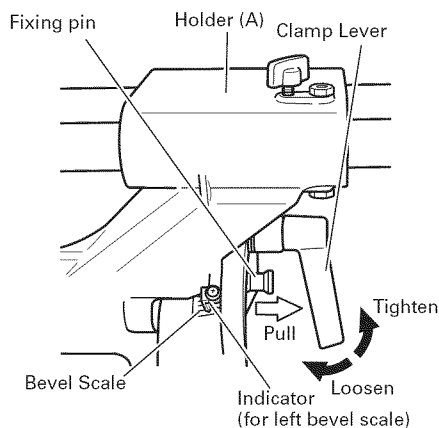

Fig. 31
- (1) Loosen the clamp lever and bevel the saw blade to the left or to the right. When tilting the motor head to the right pull the fixing pin towards the rear. The clamp lever adopts a latching system. When contacting the work bench and the main body, pull the clamp lever in the direction of the arrow mark as illustrated in Fig. 31, and change the direction of the clamp lever.
- (2) Adjust the bevel angle to the desired setting while watching the bevel angle scale and indicator, then secure the clamp lever.
- (3) Follow the procedures indicated in paragraphs 4,5 and 6 above. For maximum dimensions for bevel cutting, refer to "SPECIFICATIONS" table on page 9.